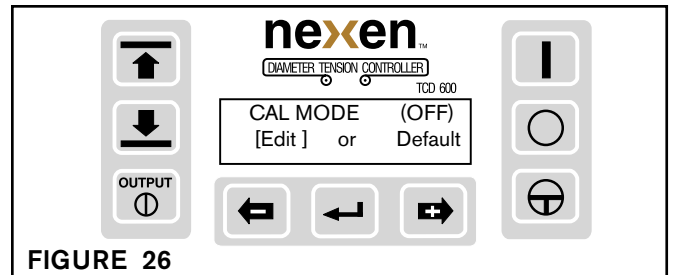
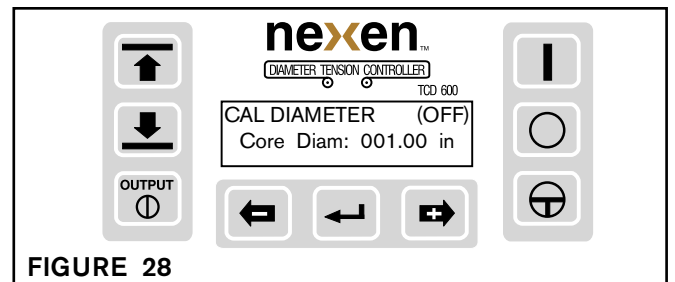
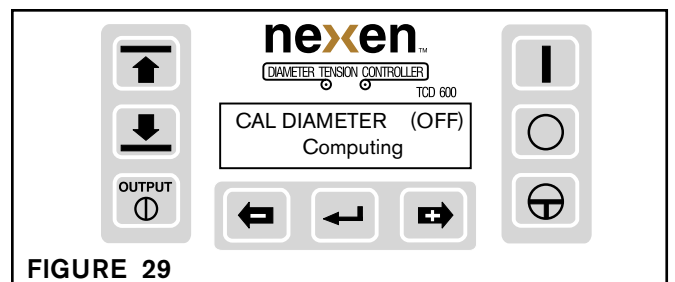

FIGURE 26
FIGURE 28
FIGURE 29
- Using the Select Upper button, advance the top line of the display to Calibration Mode (See Figure 26). Using the plus or minus buttons, select Edit, then press the Enter button.
- CAL DIAMETER, Core Diam: will appear in the display (See Figure 28). Using the plus or minus button, enter desired core diameter, then press the Enter button. Computing will appear in the display for a few seconds, then the display will advance to the next step (See Figure 29).
- CAL DIAMETER, Max Diam: will appear in the display (See Figure 30). Using the plus or minus button, enter the maximum roll diameter then press the Enter button. Computing will appear in the display for a few seconds (See Figure 29), then the display will return to the CAL MODE (See Figure 26). Advance to Step 11 to enable lockout.
- CAL DIAMETER, Core Diam: will appear in the display (See Figure 28). Using the plus or minus button, enter the desired core diameter then press the Enter button.